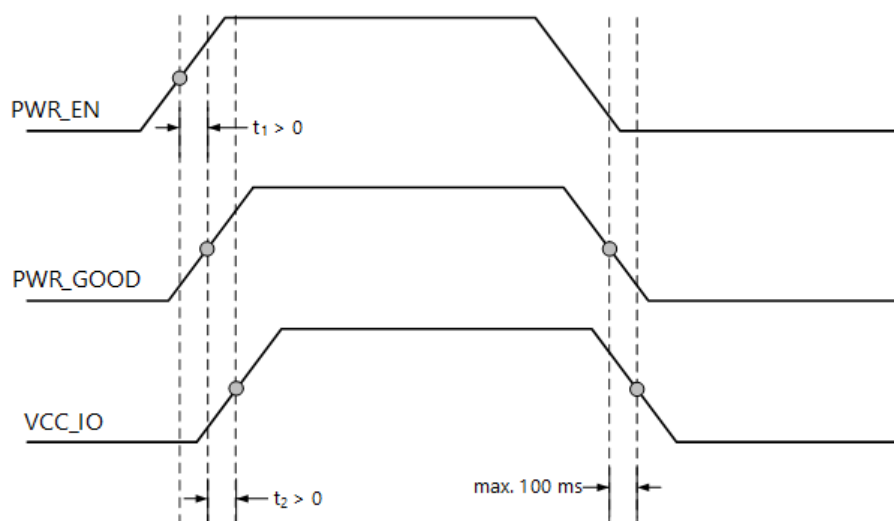

Figure 13: Power-Up Sequence, VCC_IO in Relation with PWR_GOOD and PWR_EN Signals
- Follow the power sequence diagram shown in Figure 13. This ensures that the I/Os are tri-stated at power-on and power-off.